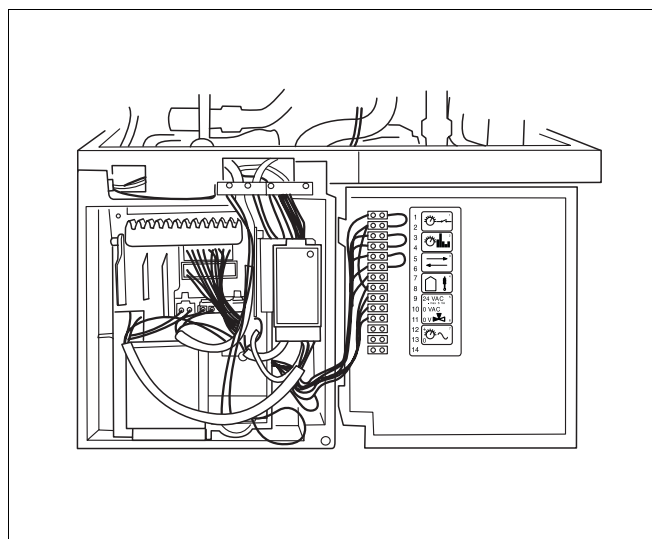

Fig. 89 Opening the UBA housing
- Push in UBA housing on left-hand side and open to the right (fig. 89).